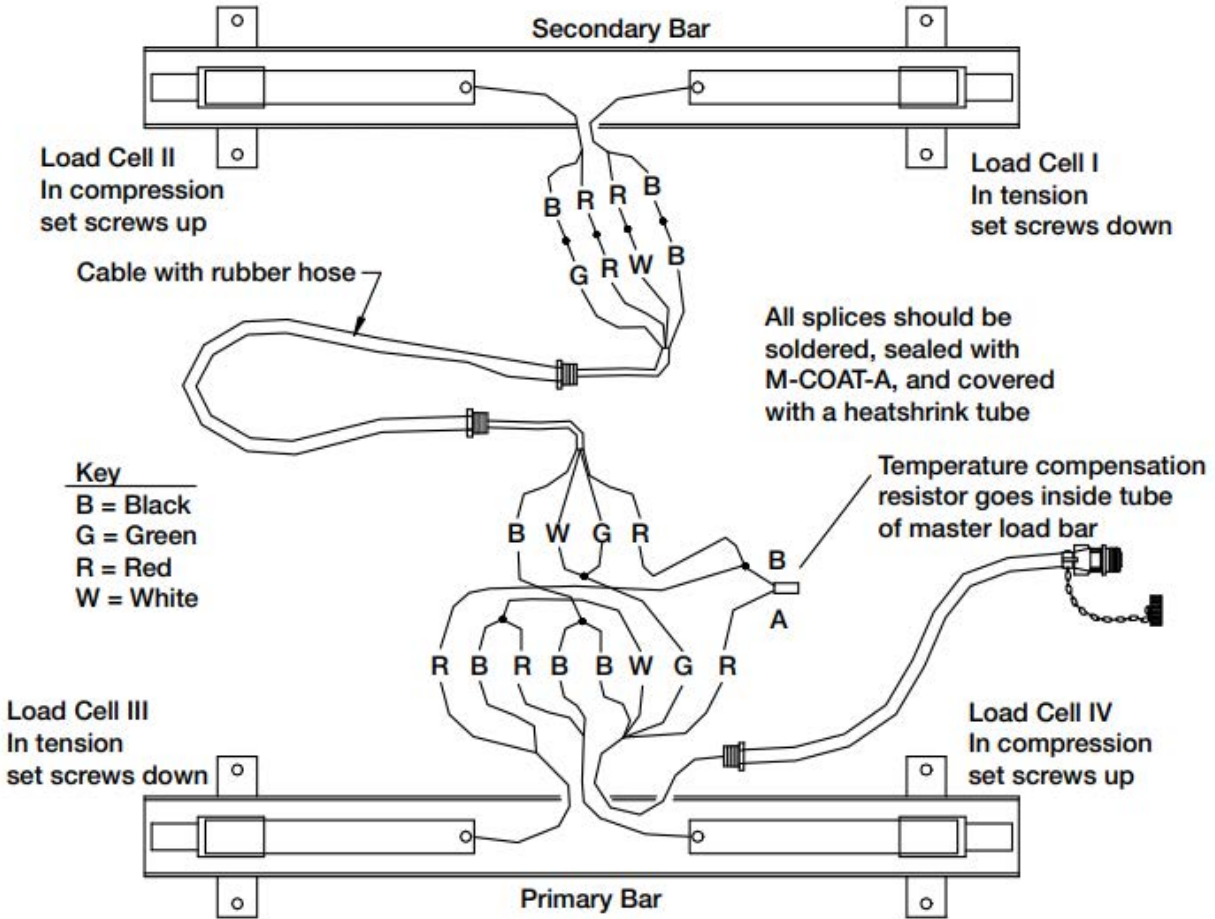
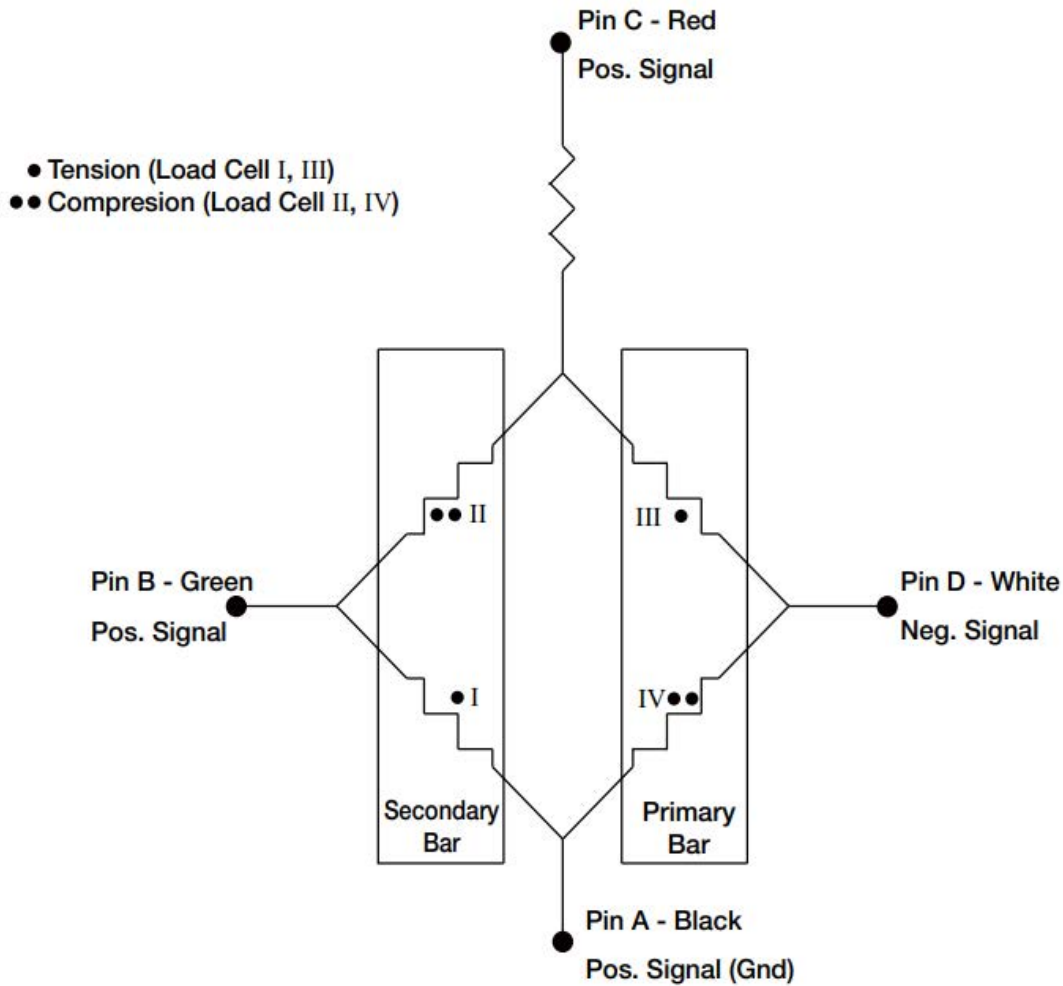

Figure 6-1. Farm Bar System Wiring Diagram
Figure 7-1. System Schematic
When checking an individual load cell, it must be completely disconnected from the scale's electrical circuit. To accomplish this, the wires will need to be taken apart at the Farm Bar cable splice. See Figure 6-1 for the wiring of a Farm Bar system. The circuit diagram for the load cells of a U Series Farm Bar system is shown in Figure 7-1 on page 15. Remember that each load cell contains four wires. All four wires must be disconnected to separate that load cell from the circuit.
**IMPORTANT:** *Figure 7-1 displays the position for the set screws that hold the bearing collars in place. The set screw positions are NOT all the same! When replacing a load cell, place it in with proper set screw orientation. If the load cell is installed upside down, the scale will not work properly.*